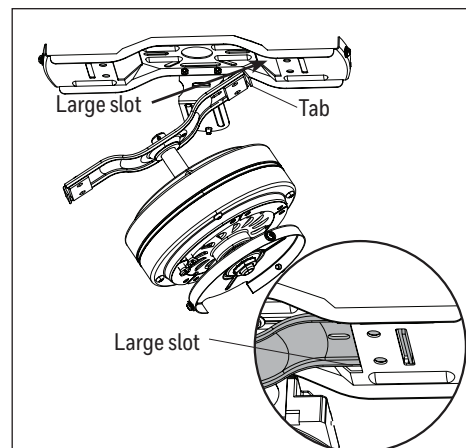

Figure 2.3
3. Place one tab on the lower mounting bracket into one of the large slots in the upper mounting bracket. Then slide the second tab on the lower mounting bracket into the second large slot until all four screw holes are in alignment (Figure 2.3).